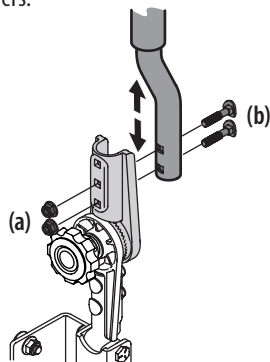

Figure 5
1. Remove the flange lock nuts (a) that secure the carriage bolts (b) in the drive control levers. See Figure 5.
2. Remove the carriage bolts (b) from the drive control levers and reposition to the second set of holes in the mounting block. See Figure 5.
3. Reinstall the carriage bolts (b) and flange lock nuts (a), and tighten to 28-34 ft-lbs (38-46 N-m). See Figure 5.